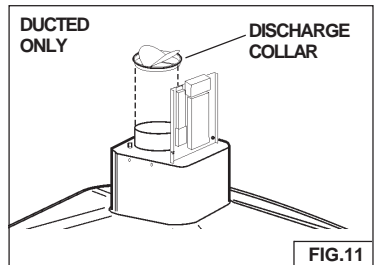

FIG.11
2. Install the plastic discharge collar into the opening of the blower discharge. Fig. 11.